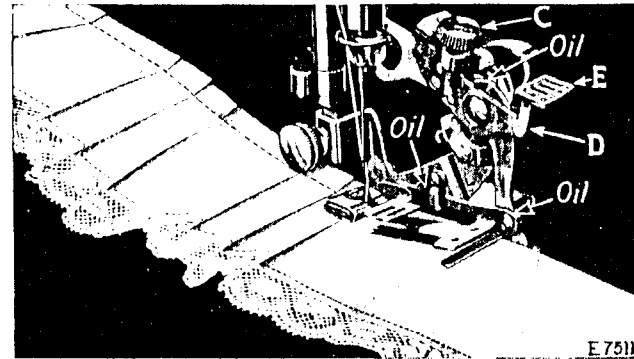

FIG. 32
The ruffler can be adjusted for group plaiting by lifting the adjusting lever (E, Fig. 32) and moving
it to the right so that the top of the projection (D, Fig. 32) engages the small slot indicated by the star on the adjusting lever. This should be done at the points where you wish to make the space between the plaits. The ruffler will then stop and plain stitching will be made. When the desired space has been made, adjust the lever (E) so that the projection (D) enters either the slot marked "6" or the slot marked "12." By alternately making groups of plaits and plain spaces, as shown in Fig. 32, very attractive work can be produced.
Occasionally apply a drop of oil to the working parts of the ruffler at each of the places indicated by arrows in Fig. 32. After oiling, operate the ruffler on a waste piece of material to prevent the oil soiling the work. If the ruffler does not plait evenly, a drop of oil may remedy the trouble.